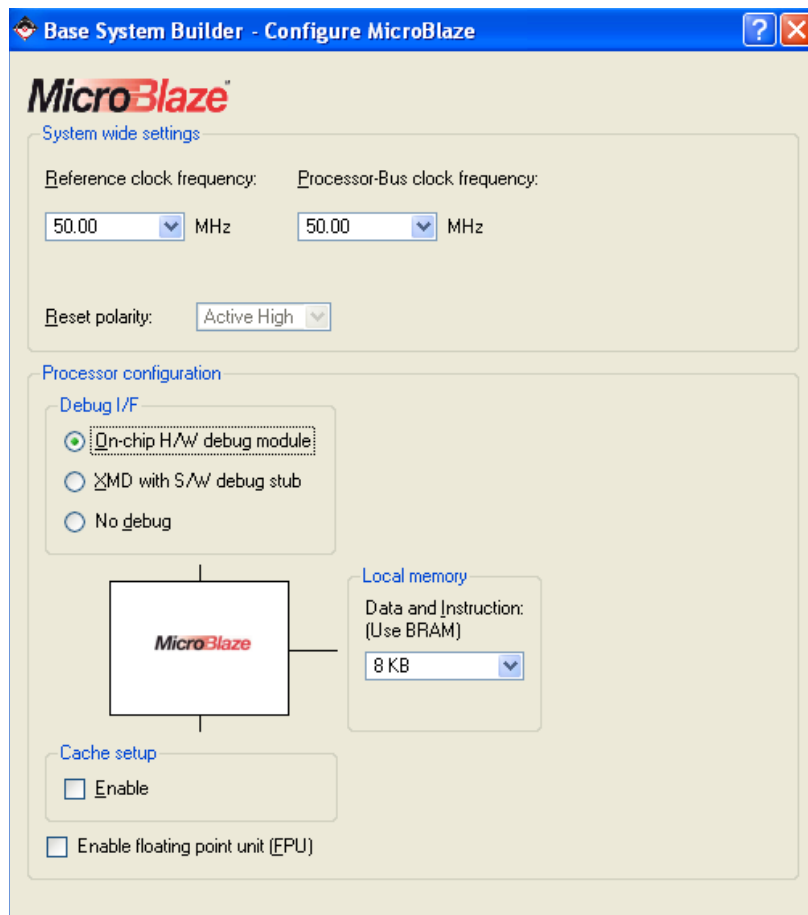

Figure 1-7. Configure Processor Dialog Box
- 7 In the **Configure Processor** dialog box (**Figure 1-7**), leave the default settings (see below) and click **Next**.